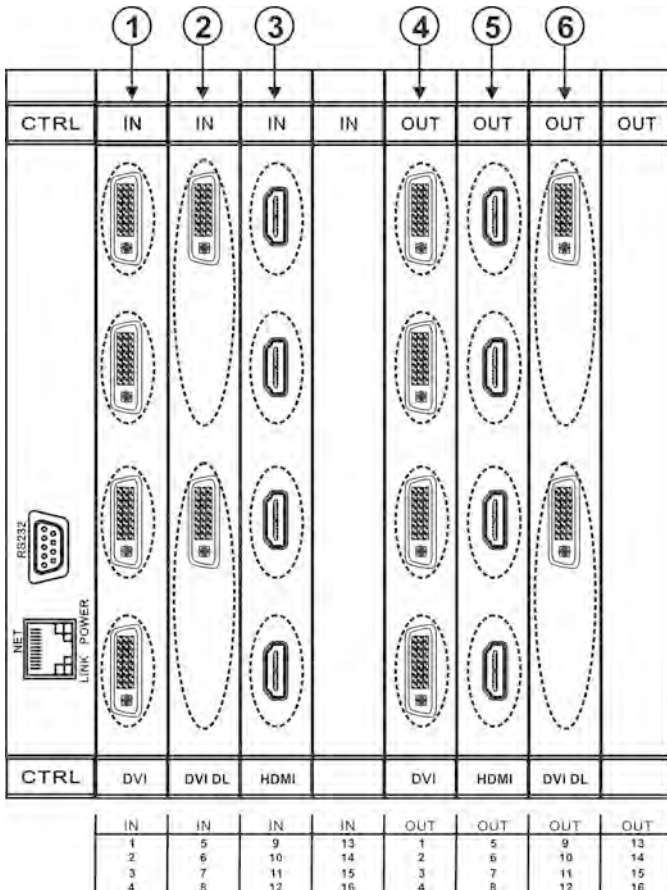
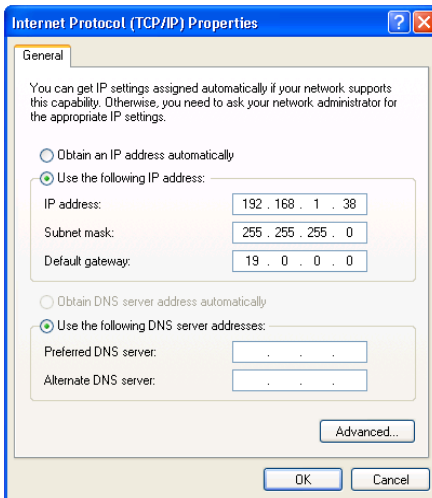

Figure 5: Sample Port Numbering
Figure 8: Internet Protocol (TCP/IP) Properties Window
On all cards apart from the DVI dual link cards there are four physical ports. The numbering of ports is sequential from top to bottom and left to right. Each DVI dual link card provides two physical ports which causes the loss of two numbers in the numbering sequence of that card only. A sample numbering is shown in Figure 5.
The table below is based on the port numbering shown in Figure 5. Figure 8 lists EDID configuration requests and the results.
6. Select **Use the following IP Address** and enter the details as shown in Figure 8. You can use any IP address in the range 192.168.1.1 to 192.168.1.255 (excluding 192.168.1.39) that is provided by your IT department.